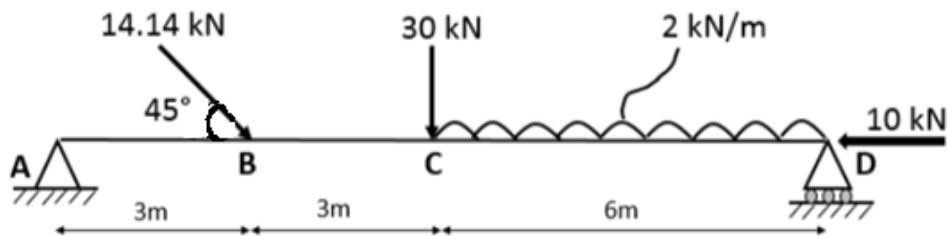
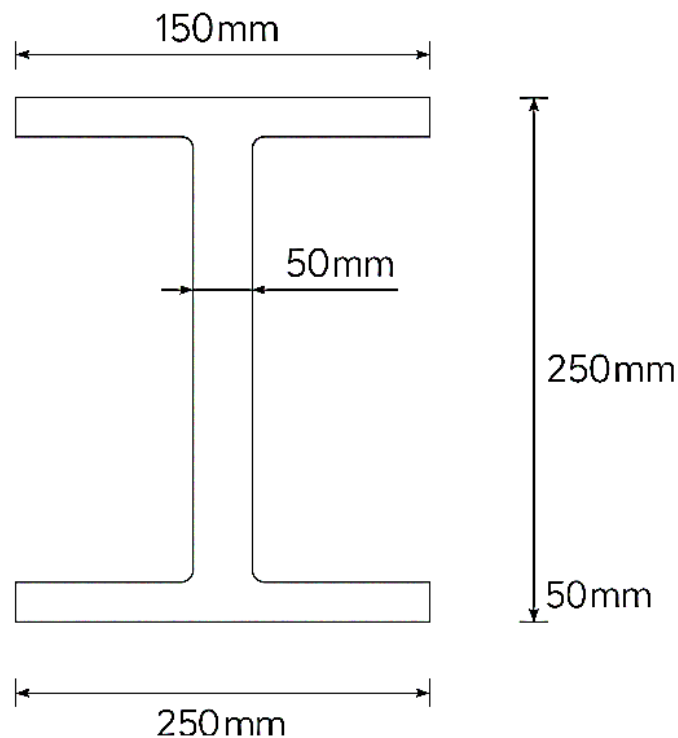

Figure 1: Simply supported beam ABCD
Figure 2: Cross section of beam ABCD
A simply supported beam of length 12m is shown in **Figure 1**. The beam is pinned at A, and at D, it is supported by a roller support experiencing a horizontal force of 10kN. The beam carries a point load of 14.14kN acting at an angle of 45° at B, a point load of 30kN acting vertically downward at C together with a UDL of 2kN/m acting vertically downward between C and D.
- a) If beam ABCD shown in **Figure 1** has an asymmetrical I-Shape cross section as shown in **Figure 2**, Compute the maximum bending stress developed in the beam. Also, sketch the stress variation along the beam depth at the point of maximum bending stress, clearly indicating regions of tension and compression.